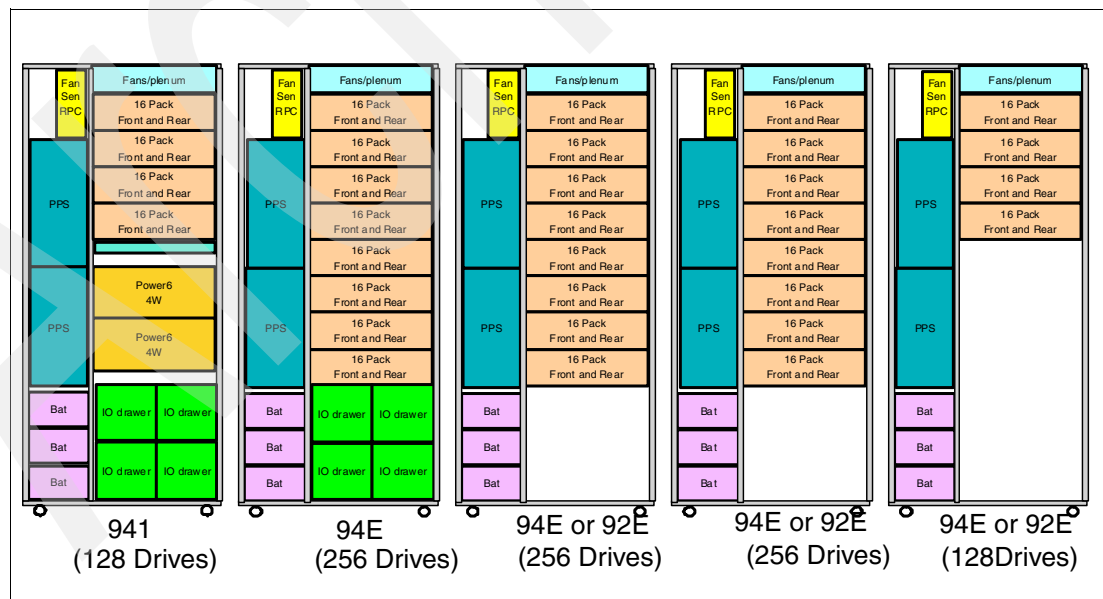

Figure 2-3 DS8700 models 941/94E maximum configuration with 1024 disk drives
There are no additional I/O enclosures installed for the second, third, and fourth expansion frames. The result of installing all possible 1024 DDMs is that they will be distributed evenly over all the device adapter (DA) pairs (for an explanation of DA pairs, refer to 3.4.1, “Device adapters” on page 42). The installation sequence for the third and fourth expansion frames mirrors the installation sequence of the first and second expansion frames with the exception of the last 128 DDMs in the fourth expansion frame, as shown in Figure 2-3.